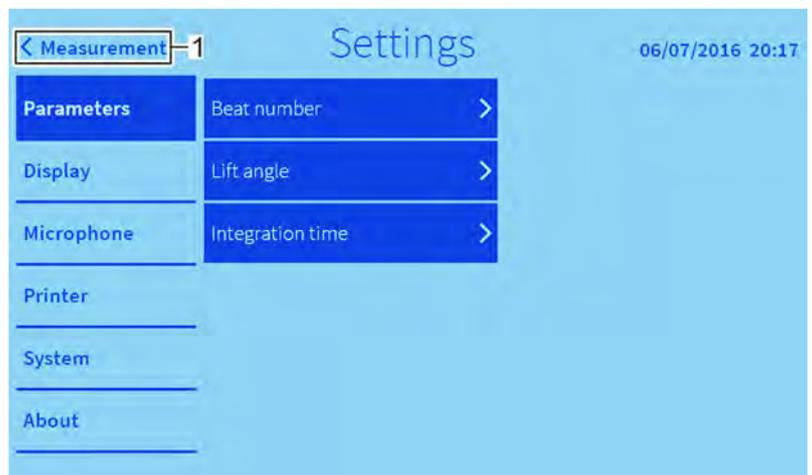

Fig. 29: Exiting the settings menu
- ➔ Press the “Measurement” (Fig. 29/1) touch button.